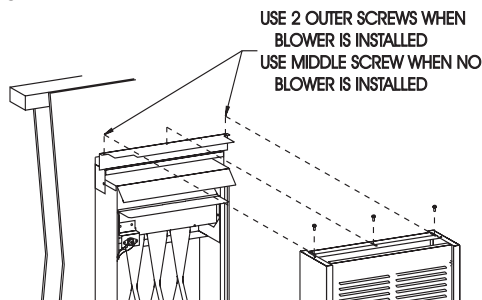

Figure 11
9. Attach outer casing to header assembly. **Attention:** The center clearance hole will not be used. The two outside clearance holes will be used to attach outer casing to header assembly, one screw from Step 4 and one screw supplied in hardware package. Refer to **Figure 11**.